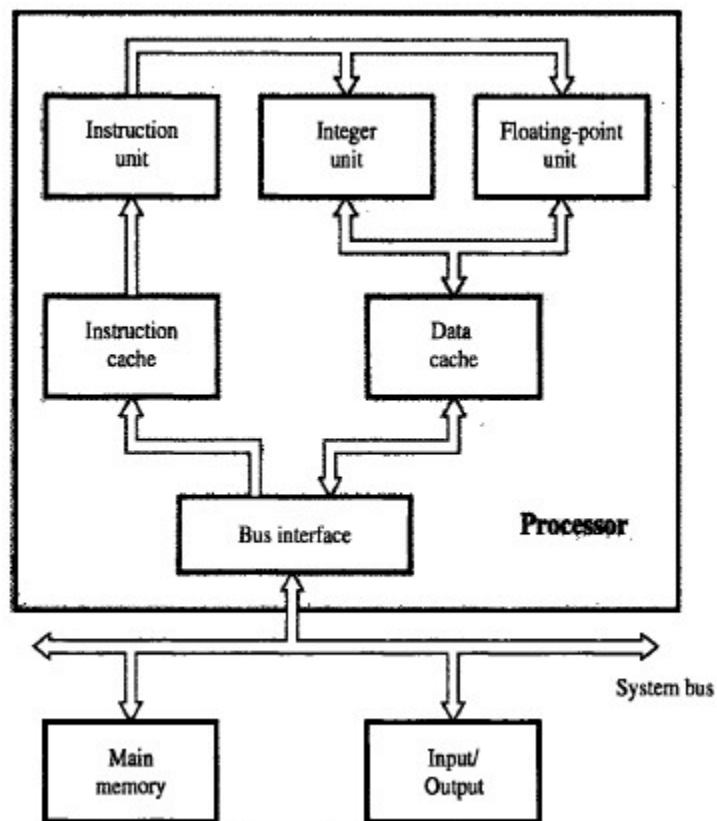

Figure 3.10 Block diagram of complete processor
**Integer Unit** To process integer data. (Figure 3.10).